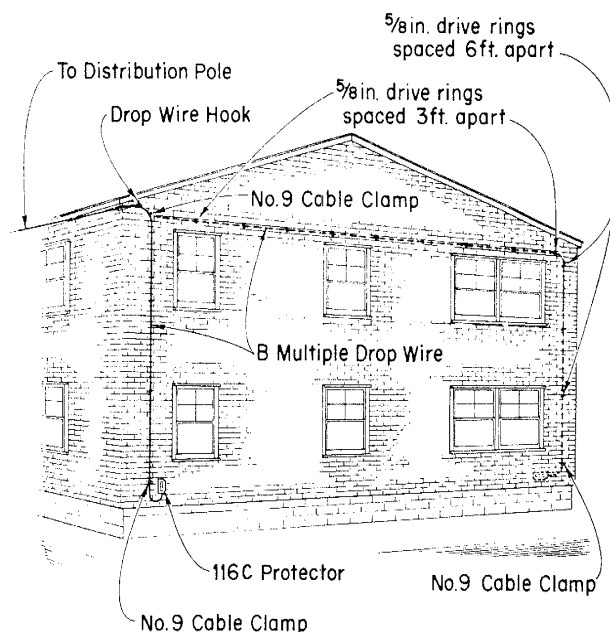

Fig. 1 — Complete Wire Run on Building
3.06 Complete wire run on outside building wall is illustrated in Fig. 1.